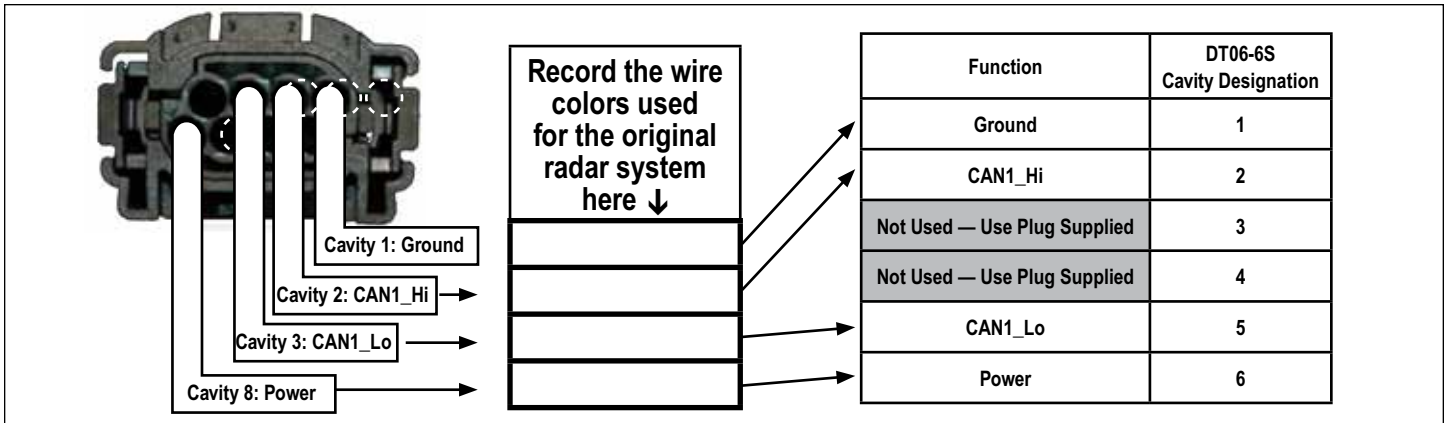

FIGURE 2 - EXISTING WIRE DESIGNATIONS AND THE DT06-6S CAVITIES TO USE IN THE NEW CONNECTOR
5. See Figure 2. Record the wire colors used by the OEM for the locations of the existing speciality vehicle wire harness in the spaces provided in Figure 2